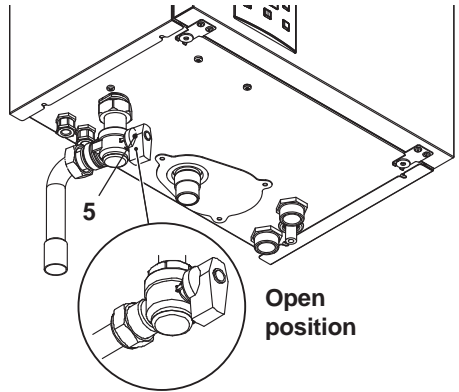

Fig. 7.1
- Open the gas cock 5 (Fig. 7.1) on the appliance and check the gas connector on